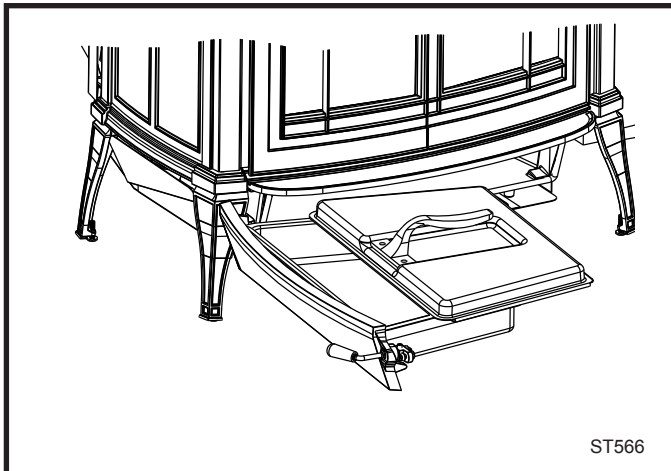

Fig. 41 Be sure the cover is securely attached before removing the ash pan.
- Slide the cover onto the pan, making sure it is securely closed. (Fig. 41)
- Return the ash pan to its original position in the stove, and close and latch the ash door. (Fig. 41)